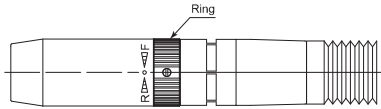

Fig. 5
- (1) Supply air pressure to the Air Line Kit.
- (2) Supply air from the air compressor and turn the Regulator Knob to set air pressure between 0.3 - 0.45 MPa (43.5 - 65.3psi).
- (3) Motor will be rotated by turning the Ring Switch of Air Motor toward (" F : FWD," or " R : REV,") in Fig.5 and stepping on Foot Control.